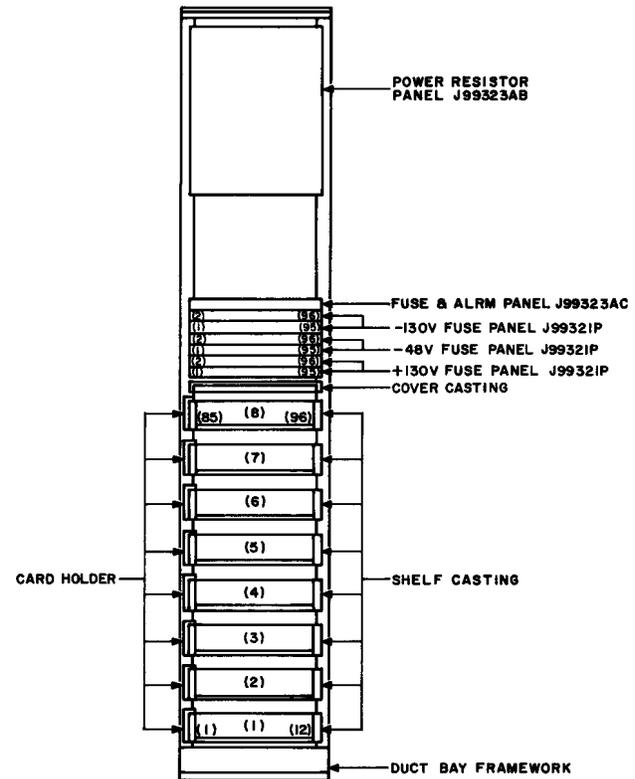

Fig. 4 — J99323E N2 Line Build-Out Bay Equipped With Power Feed and Without Line Protectors (11 Feet 6 Inches High by 26-3/8 Inches Wide)
2.10 The J99323E line build-out bay, shown in Fig. 4, is an 11-foot 6-inch bay without primary line protectors. The bay is arranged to provide line build-out equipment and power feed arrangements for 192 carrier pairs in underground cable facilities. The fully equipped bay will include eight mounting shelves for ninety-six J99323AA line build-out units with constant-current regulators, six J99321P fuse panels (two for -48 volt power, two for -130 volt power, and two for +130 volt power) for supplying power to the cable pairs, one J99323AC fuse alarm
2.12 The J99323G line build-out bay is similar to the bay shown in Fig. 4 except that the equipment has been reduced to fit into a 7-foot bay. Line protectors are not furnished but the bay includes line build-out equipment and power feed arrangements for building-out 96 carrier pairs in underground cable facilities. The fully equipped bay includes four mounting shelves for forty-eight J99323AA line build-out units with constant-current regulators, three J99321P fuse panels (one for -48 volt power, one for -130 volt power, and one for +130 volt power) for supplying power to the cable pairs, one J99323AC fuse alarm panel for operating office alarms, and one J99323AD power resistor panel to dissipate the excess power created in maintaining the proper line current.
2.16 *The J99323R line build-out bay* is similar to the bay shown in Fig. 4 except that the equipment has been reduced to fit into a 9-foot bay. The frame comes without line protectors and provides line build-out equipment and power feed arrangements for building-out 168 carrier